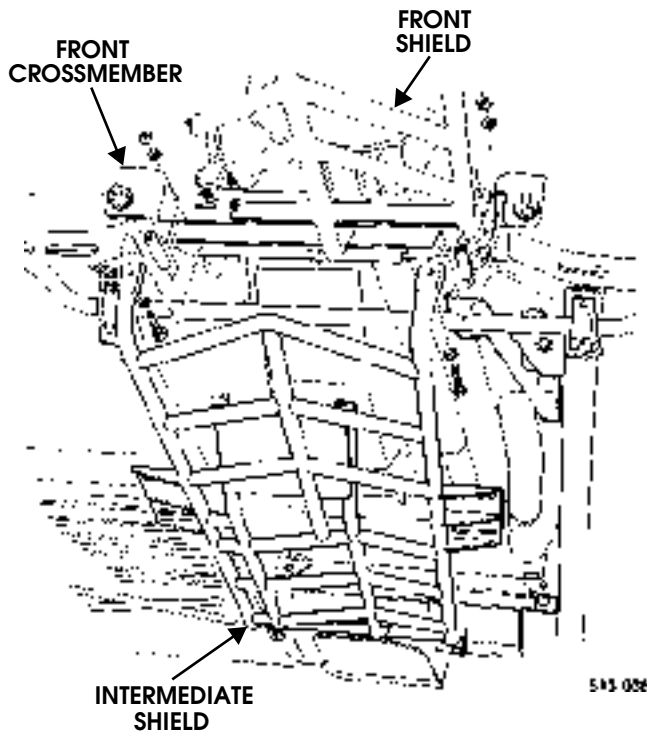

Figure 13-37: Intermediate Shield
6. Remove two locknuts, washers, bolts, washers, spacers, and intermediate shield from front crossmember and front shield. Discard locknuts (Figure 13-37).
1. Install intermediate shield to front crossmember and front shield with two spacers, washers, bolts, washers, and locknuts. Tighten locknuts to 44 lb-ft (60 N•m) (Figure 13-37).